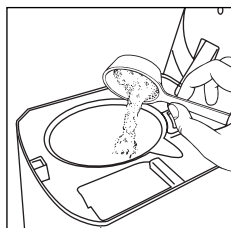

fig. 6
- Place the ground coffee in the filter, using the measuring spoon supplied, and level evenly (Fig. 6). As a general rule, use a level measuring spoon of ground coffee (around 7 grams) for each cup (for example, 8 spoons to make 8 cups). Never use more than 14 level spoons. The quantity of ground coffee used will vary according to personal taste. Use good quality, medium ground coffee, packaged for filter coffee makers.